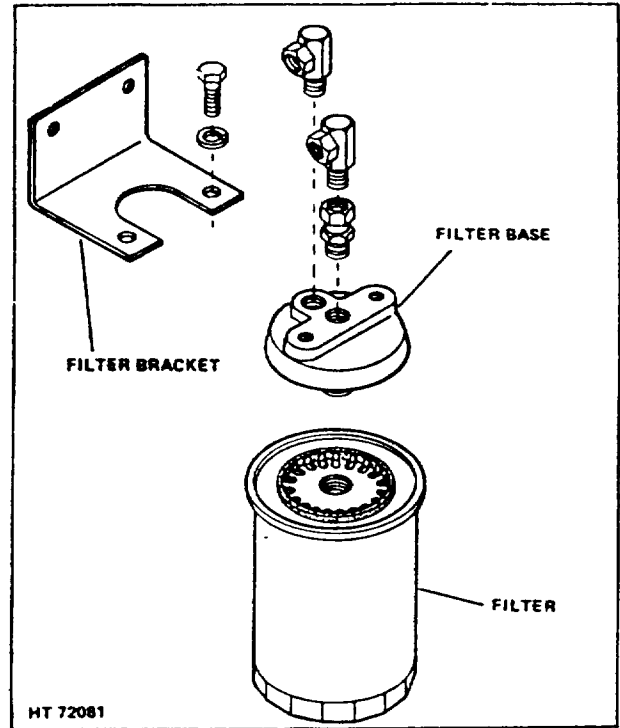

Figure 28. Throw-Away Type Filter (Typical)
3. Using an oil filter removing tool, unscrew the filter (refer to Figure 28) and discard.